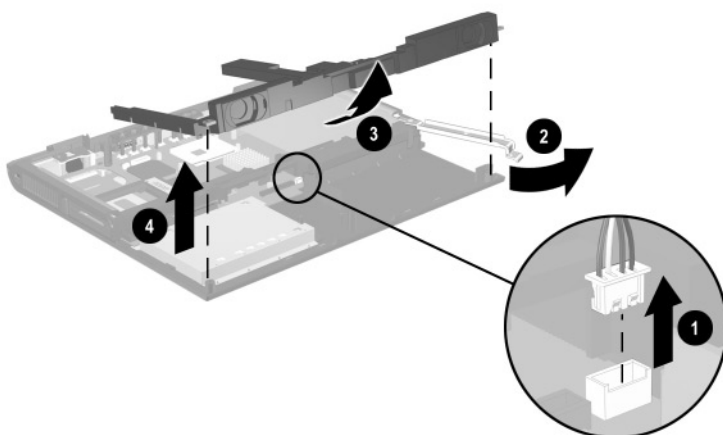

Figure 5-38. Removing the Speaker Assembly
4. Disconnect the speaker cable ❶ from the system board (Figure 5-38).
5. Swing the battery bay support bracket ❷ to the right until it clears the right edge of the speaker assembly.
6. Lift the front edge of the speaker assembly until it rests at an angle ❸.
7. Slide the speaker assembly forward and remove it ❹ from the base enclosure.